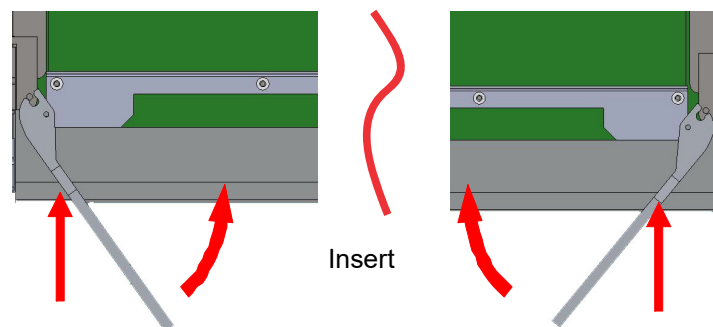

Figure 22 Inserting a Front Module with Levers
- When the module is nearly fully in the frame, gently push the module levers. See Figure 22